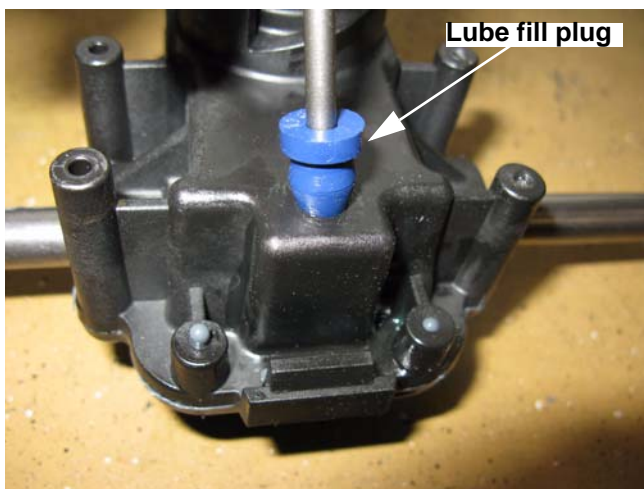

Figure 4.48
1. Lubricant: In the course of normal service, it should not be necessary to replace the gear lube. See Figure 4.48.